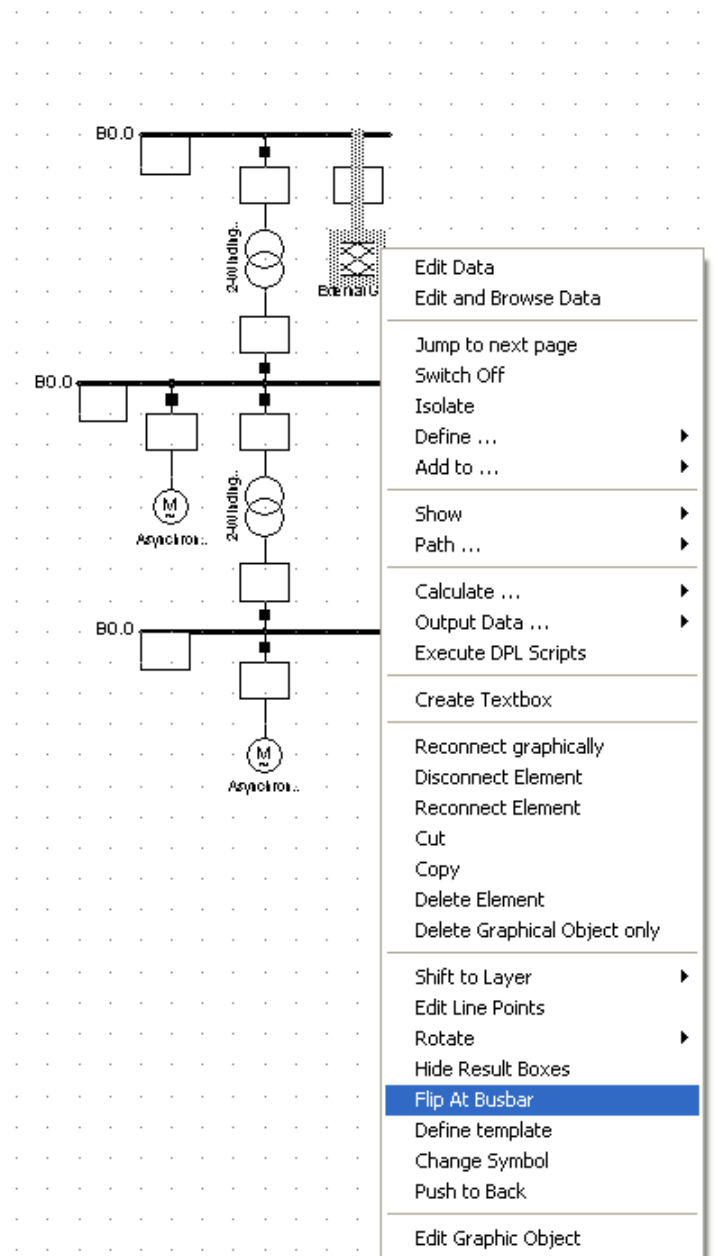

Fig. D.6: Flipping a symbol
- ▶ Right-click the external grid symbol or the asynchronous machine. The context sensitive menu appears (see the figure D.6).